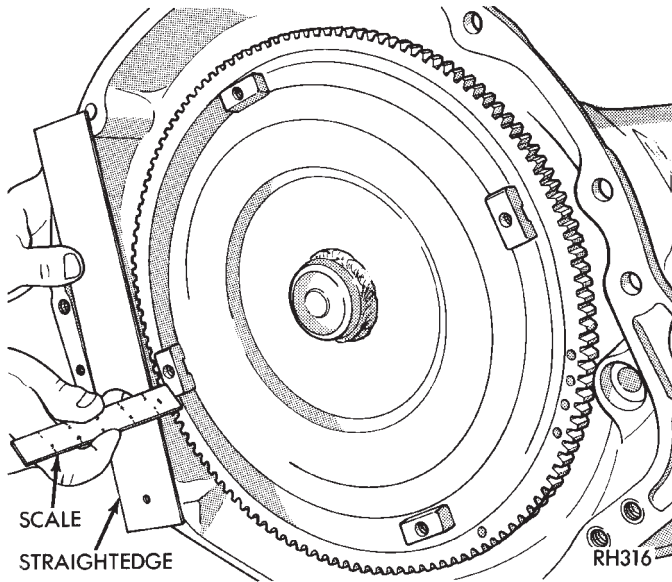

Fig. 20 Checking Torque Converter Seating
(6) Check converter seating with a scale and straightedge (Fig. 20). Surface of converter lugs should be 1/2 in. to rear of straightedge when converter is fully seated.
(7) If necessary, temporarily secure converter with C-clamp attached to the converter housing.
(8) Install the transmission in the vehicle.
(9) Fill the transmission with the recommended fluid.